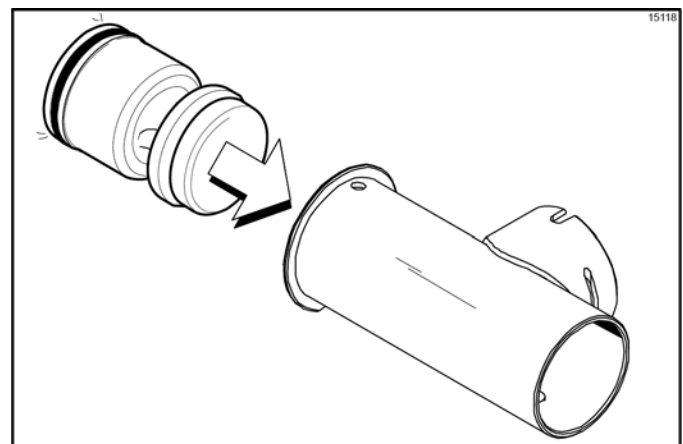

Figure 6-37
- Insert the piston into the retaining pin end of the pump cylinder. (See Figure 6-37.)